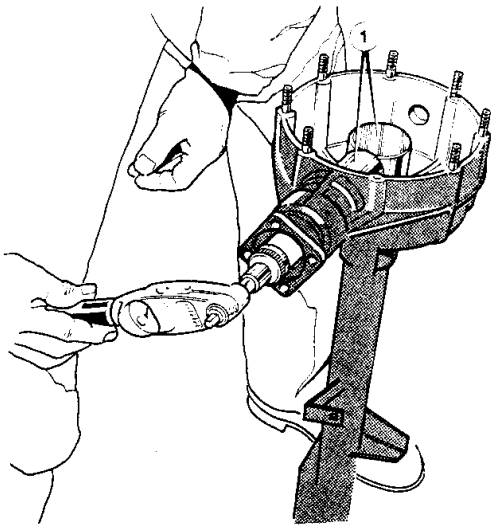
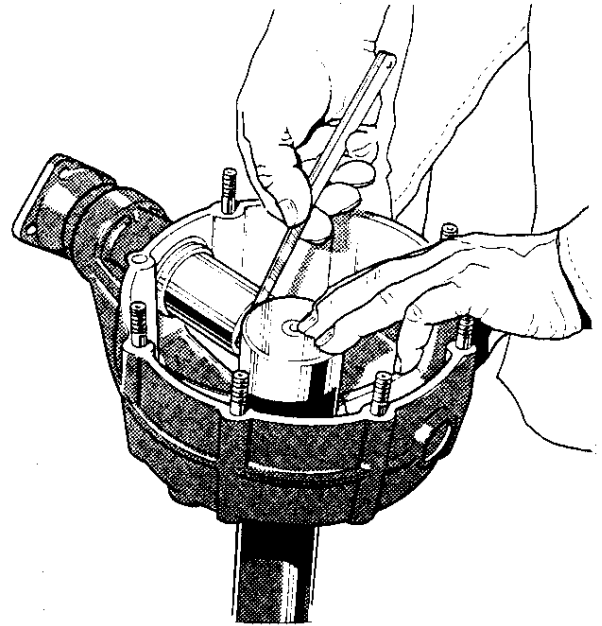

Figure 10 Measuring the torque to turn the pinion using dummy Pinion tool
Figure 11 Determining pinion mounting distance using dummy pinion
4. Place the mandrel, RT 8730 in the differential side bearing bore. With a dial gauge torque wrench, check the torque required to turn the dummy pinion nut (Figure 10). This should read 0.115 to 0.150 kg/m (10 to 13 lb/in) torque without the oil seal, 0.150 to 0.184 kg/m (13 to 16 lb/ft) with the oil seal. Ensure that the mandrel is seating correctly and measure with feeler gauges the gap between the outside diameter of the mandrel and the dummy pinion face (Figure 11). Any amount in excess of 0.030 in will be the spacers required to bring the pinion to its correct operating distance. take in to account,